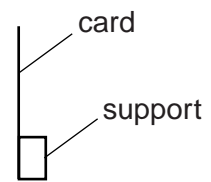

Fig. 3.3
- (iv) Screen. A white sheet of stiff card approximately 150 mm × 150 mm, fixed to a wooden support is suitable (see Fig. 3.3).